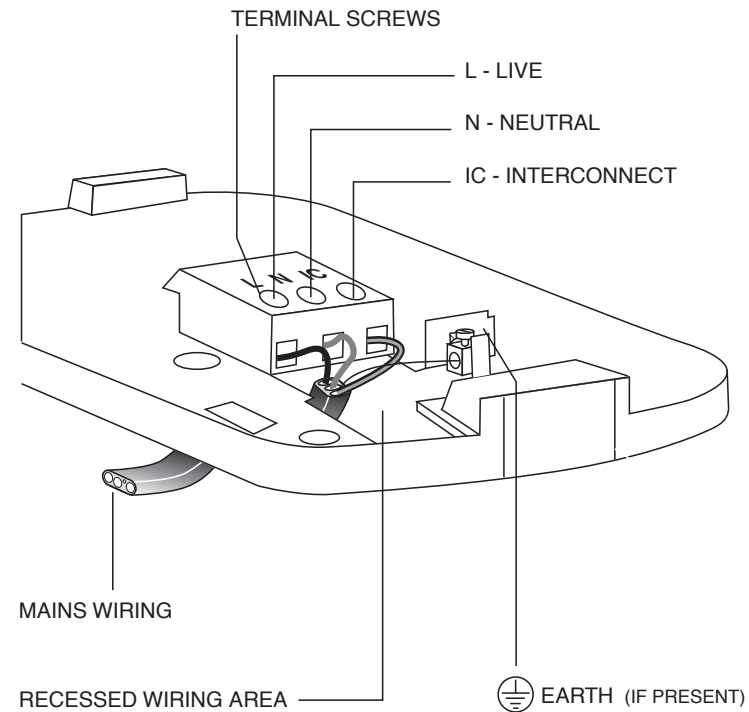

Figure 6 - Recessed Wiring
6. If the mains wiring is recessed, bring the wiring through the rear hole in the mounting plate as shown in *Figure 6*.